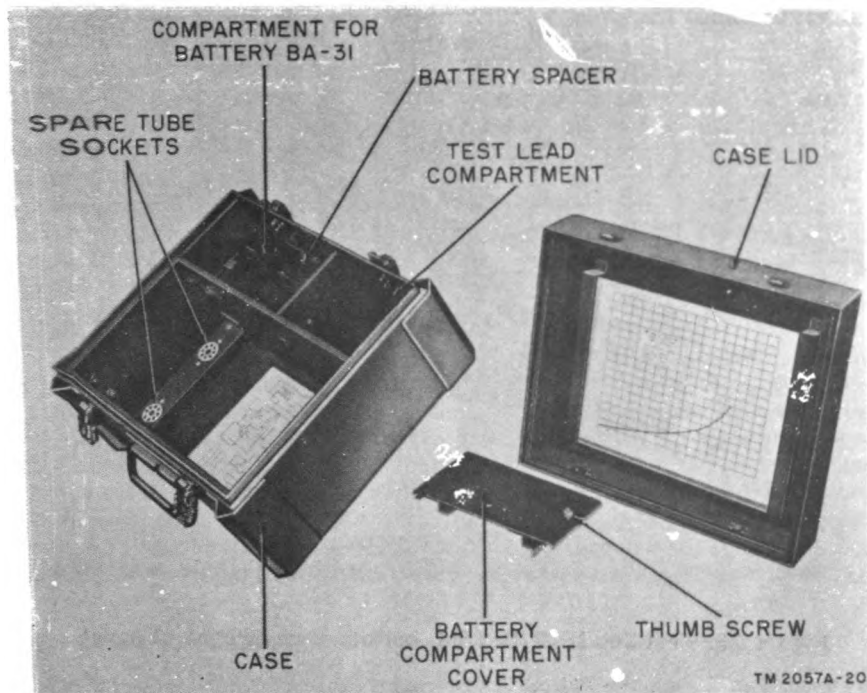

Figure 22. Test Set TS-27B/TSM, case components.
- (1) Loosen the thumbscrew (fig. 22), and remove the battery compartment cover from the case.
- (2) Lift Batteries BA-59 from the battery compartment, and remove plugs P2 and P3 from the batteries.
- (3) Lift Battery BA-15-A from the battery compartment, loosen battery terminal nuts, and remove wires from battery.
- (4) Lift Battery BA-31 from the battery compartment, loosen battery terminal nuts, and remove wires from the battery.
- (1) Secure wires to Battery BA-31 terminals by means of the terminal nuts. Connect black wire to the plus terminal, and brown wire to the minus terminal. Check the wiring with the wiring diagram shown in figure 21. Insert the battery in an upright position into the lower left-hand corner of the battery compartment under the battery clip (fig. 22).
Note. When 45-volt batteries are used, which are slightly wider than the standard Battery BA-59, remove the battery spacer (fig. 22) from the side of the battery compartment.